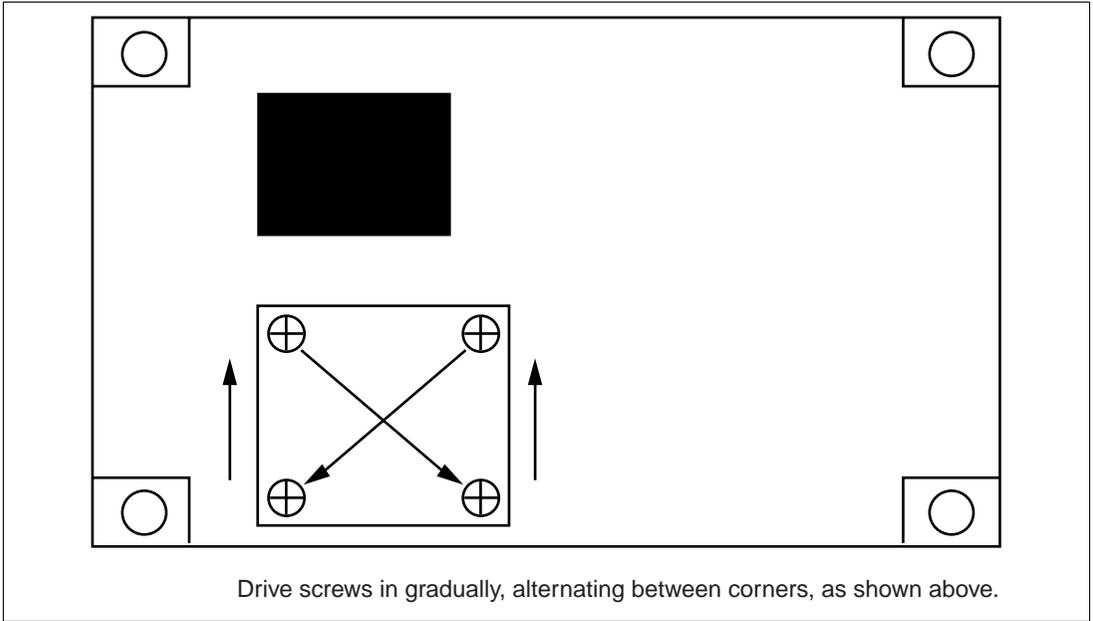

Figure C.2 Order of Tightening the Screws (Top View of the HS7751EBH81H Board)
- (c) Use four screws (M2 × 10 mm) to fix the IC socket on the HS7751EBH81H board to the IC socket on the user system. Drive each of the four screws gradually, tightening each diagonally opposite pair in turn as shown. Do not concentrate pressure on a single screw as this will cause a contact failure or otherwise degraded performance. Hold the IC socket in place by hand to prevent the application of pressure due to the force of rotation (see figure C.2, Order of Tightening the Screws).